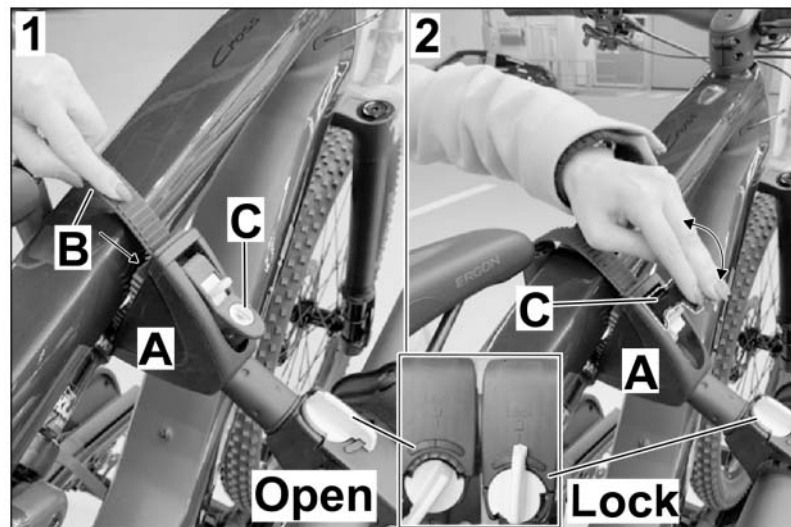

Figure 19
- 19. – Place spacer ⇒ *Figure 19-LHD vehicle -* (short) on the bike, making sure not to damage the bike and that the protective rubbers are installed correctly. The locking mechanism must be at "Lock" position so that the locking strap can be guided out and into the latch. Insert locking strap ⇒ *Figure 19-RHD vehicle -* into the spacer ⇒ *Figure 19-LHD vehicle -* and tension it. Then, lock the locking lever ⇒ *Figure 19-Item C-* with the key in lowered position. To loosen the locking strap, press the white lever firmly away from the lock and pull the locking strap out of the ratchet. If the "Lock" lever is turned slightly, the locking strap cannot be pulled out.